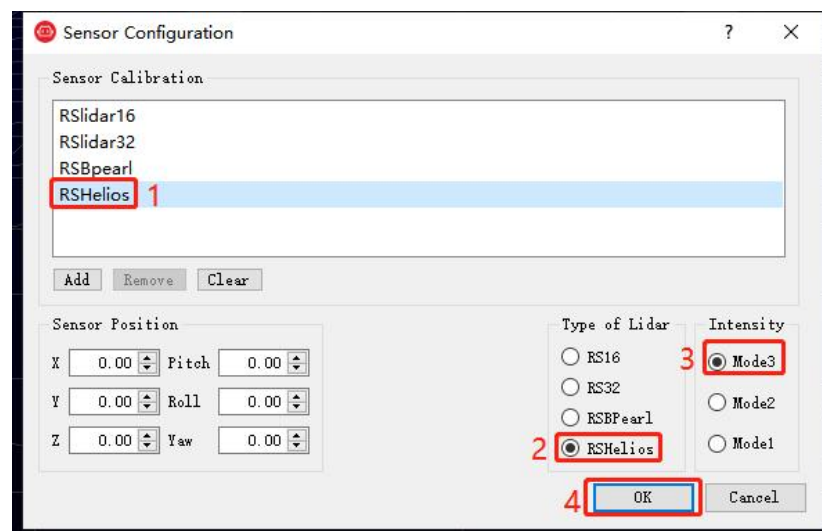

Figure C-2 Select RSHelios Parameter Configuration File
4. The Sensor Configuration dialog will appear. In "Type of Lidar", Chose RSHelios. In "Intensity", chose Mode3. Then click **OK**, as shown in Figure C-2: